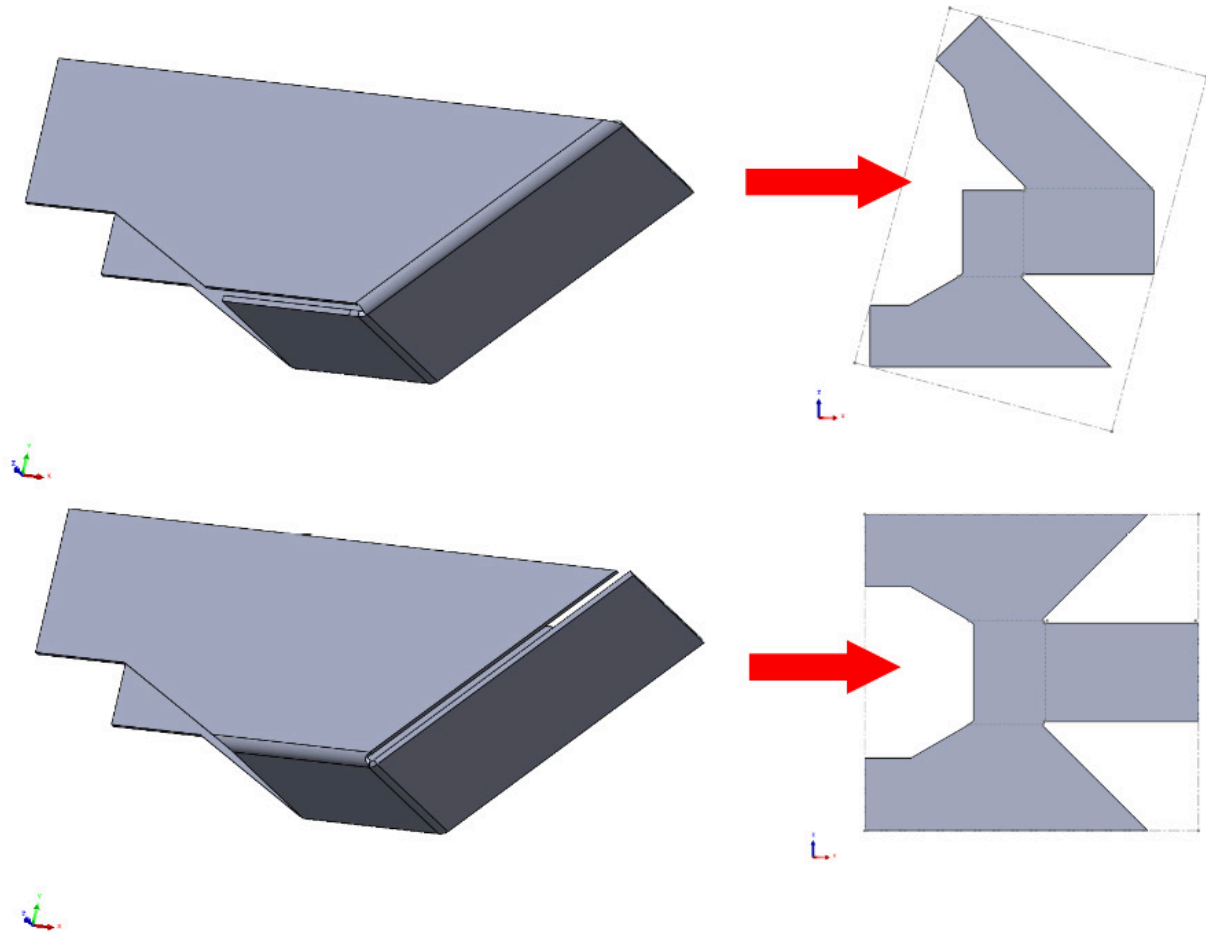

Figure 12.10: Different Bend Edge selections can give very variable results.
3. Press **OK** to accept the changes. We can now see that although this new shape and the shape from *Figure 12.8* appear very similar in 3D, they are completely different when Flattened (*Figure 12.10*).